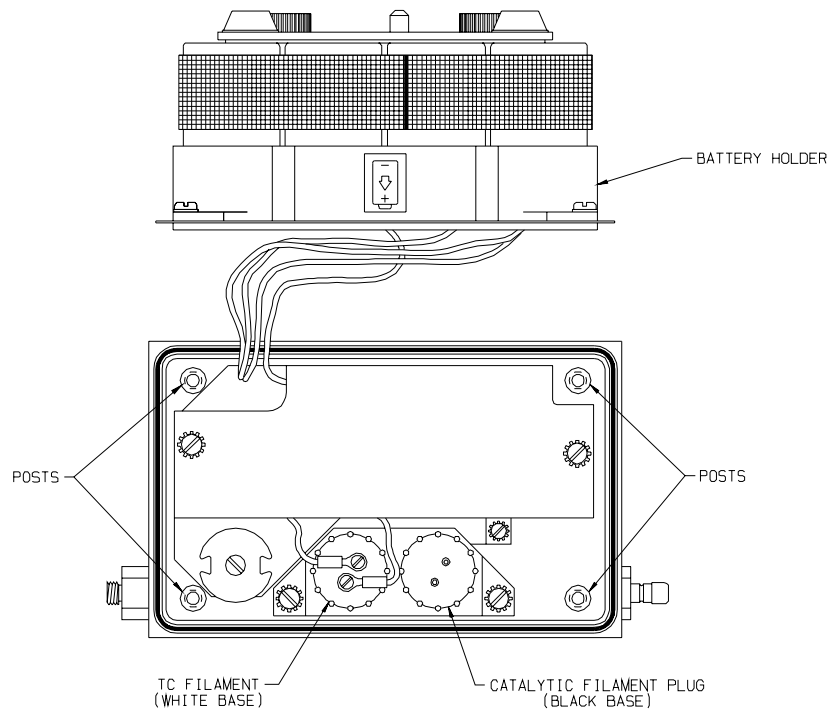

Figure 3-1. TC Filament Location
- a. Check the filament seals by opening the case and tightening both bases (FIGURE 3-1).
(FIGURE 3-1)
3. Turn the instrument so the inlet and outlet fittings are positioned as shown in FIGURE 3-1.
4. Turn the instrument so the inlet and outlet fittings are positioned as shown in FIGURE 3-1.